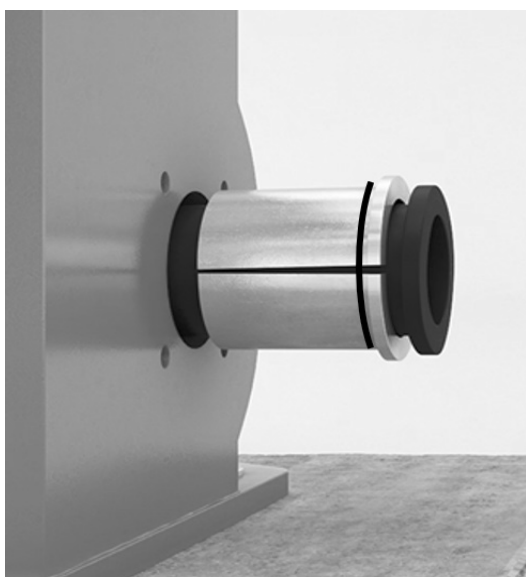
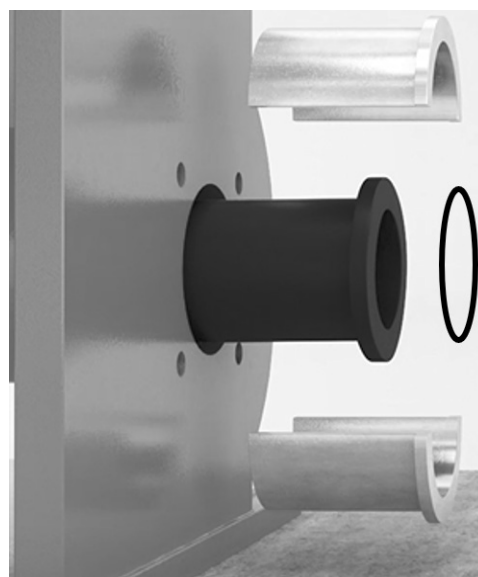

Figure 17.
Figure 18.
- Pull both ends of the hose outward slightly from the pump housing and remove the gasket rings and the halves of the split bushing (refer to *Figure 17*. and *Figure 18*.).